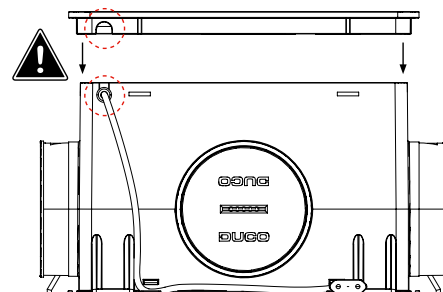

Figure 15: Note the notch in the lid.
7. Mount the lid correctly on the unit. Make sure the notch in the lid is over the power cable opening (Figure 15: Note the notch in the lid). Screw the lid back on and close with the cover plate.